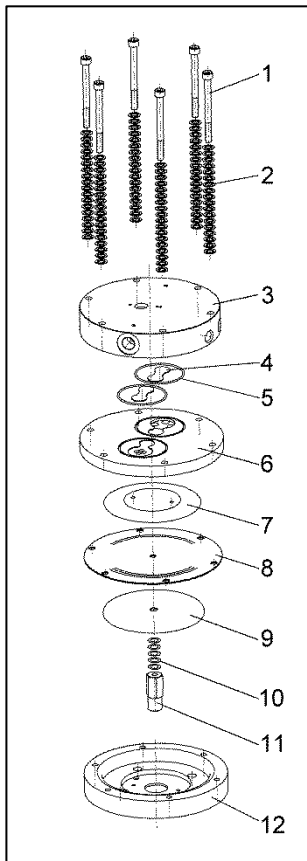

Fig. 8: Parts of pump head
** according to Fig. 8
i See Fig. 8 for further steps.
*according to Fig. 8